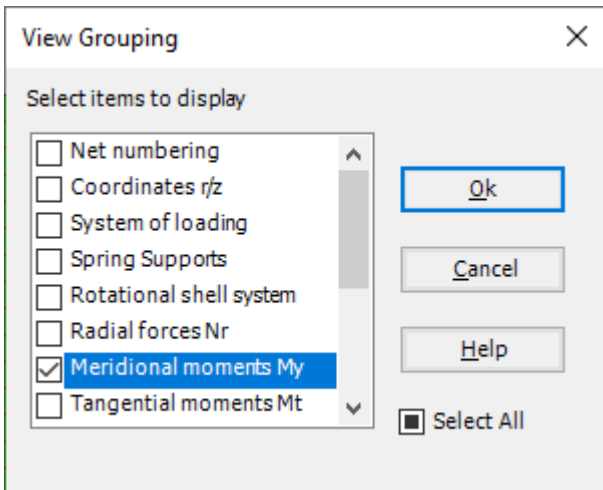

Figure 7.31 "View Grouping" check group box
- The "View Grouping" check group box in Figure 7.31 appears